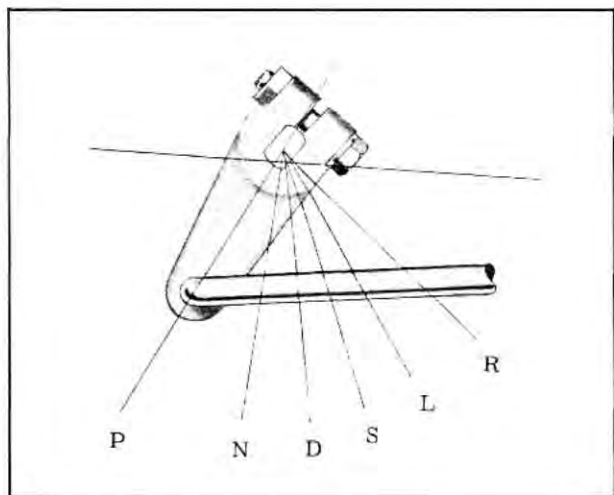

Fig. 11 Transmission Manual Lever Detent Positions
3. Place the transmission manual lever in the neutral detent position. (Fig. 11)